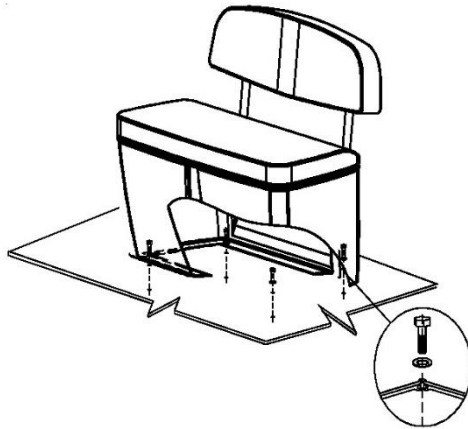

Fig. 8. Installation of container.
- Fix container to the deck by means of bolts M8*25 and toothed lock washer (fig. 8).